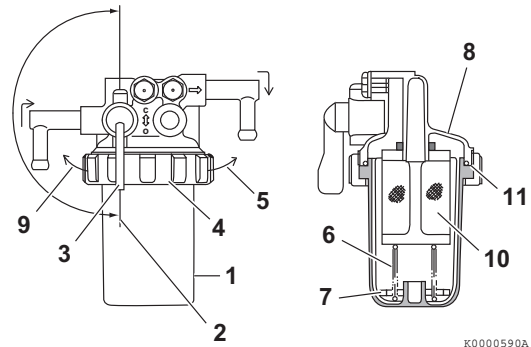

Figure 7
1. Position an approved container under the water separator (**Figure 7, (1)**) to collect the contaminants.
2. Close (**Figure 7, (2)**) the fuel valve (**Figure 7, (3)**).
3. Turn the retaining ring (**Figure 7, (4)**) to the left (**Figure 7, (9)**).
4. Carefully remove the cup (**Figure 7, (1)**). Remove the retaining spring (**Figure 7, (6)**) and float (**Figure 7, (7)**) from the cup. Pour the fuel into an approved container and dispose of waste properly. Hold the bottom of the cup with a shop towel to prevent the fuel from dripping. Wipe up any spills immediately.
6. Inspect the condition of the mesh filter (**Figure 7, (10)**). Clean the mesh filter if necessary.
7. Inspect the condition of the O-ring (**Figure 7, (11)**). Replace the O-ring if necessary.
8. Put the float (**Figure 7, (7)**) and retaining spring (**Figure 7, (6)**) inside the cup.
9. Reinstall the cup to the mounting flange (**Figure 7, (8)**) and turn the retaining ring (**Figure 7, (4)**) to the right (**Figure 7, (5)**). hand-tighten only.
10. Open the fuel valve (**Figure 7, (3)**).